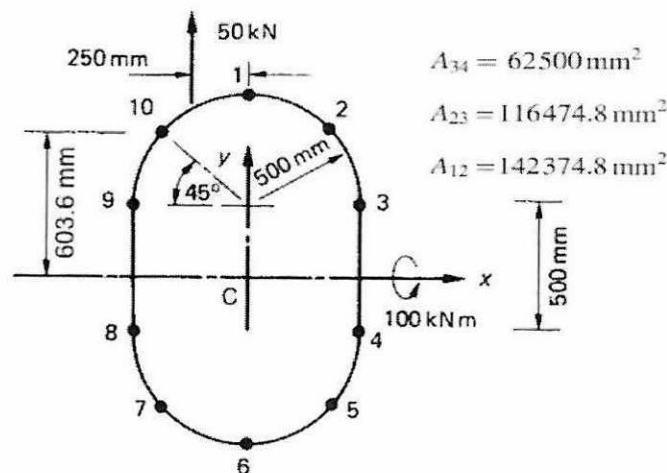

Figure Q4.1
- (b) Figure Q4.1 shows the doubly symmetrical fuselage section has been idealized into an arrangement of direct stress carrying booms and shear stress carrying skin panels. All the boom areas are 150 mm^2 . The section is then subjected to a shear load of 50 kN and a bending moment of 100 kNm .
- (b) Determine the shear flow distribution in the fuselage section in **Figure Q4.1** by replacing the applied load by a shear load through the shear center together with a pure torque. Sketch the fuselage section and show the shear distribution in the section. (19 marks)